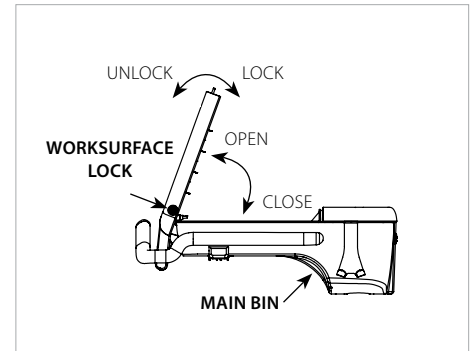

Figure 8
8. Close the **WORKSURFACE** and insert the key (provided by Amico) into the lock on the **WORKSURFACE**, then turn clockwise (CW) to lock the **WORKSURFACE** (Figure 8).